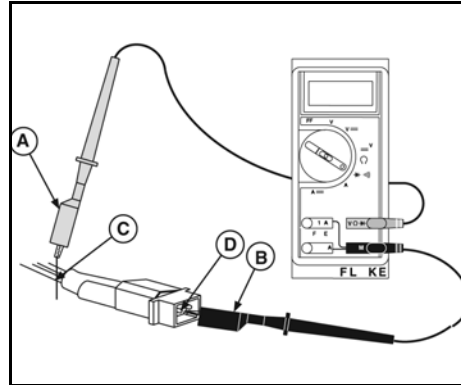

Figure 22
1. Insert RED test lead (A, Figure 22) into the V  $\Omega$  receptacle and set the rotary switch to Diode position.
2. Insert BLACK test lead (B) into the COM receptacle in the meter.
3. Attach RED test lead clip to point (C) and Black test lead clip to point (D). (It may be necessary to pierce wire with a pin as shown.)